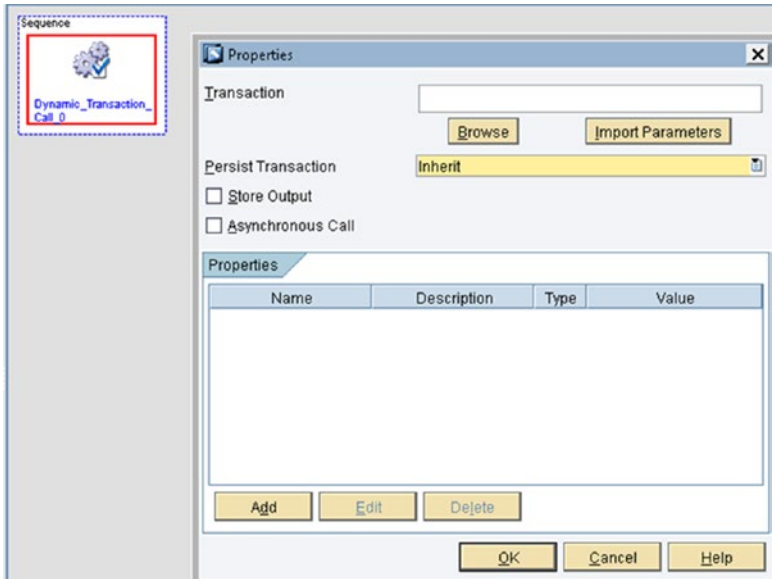

Figure 6-45. Dynamic Transaction action block
- *Dynamic Transaction call action block:* This is used to call another transaction from the nested transaction call. This is similar to the Transaction Call Action block. The only difference is that the transaction properties can be added, deleted, and mapped. Fields can be changed dynamically when the Dynamic Transaction call action block is used. See Figure 6-45.